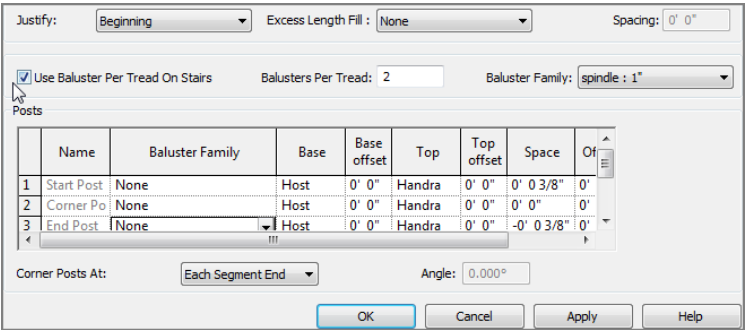

FIGURE 10.59: Specifying two balusters per tread and no actual posts
21. Just below the Main Pattern area is the Use Baluster Per Tread On Stairs option. Select it, as shown in Figure 10.59.
22. To the right is the Balusters Per Tread field. Specify two balusters per tread (see Figure 10.59).
23. Change Baluster Family to Spindle: 1" (25mm), as shown in Figure 10.59.
24. In the bottommost field is the Posts category. Change each of the three Posts to None. Your spindles are all you need (see Figure 10.59).